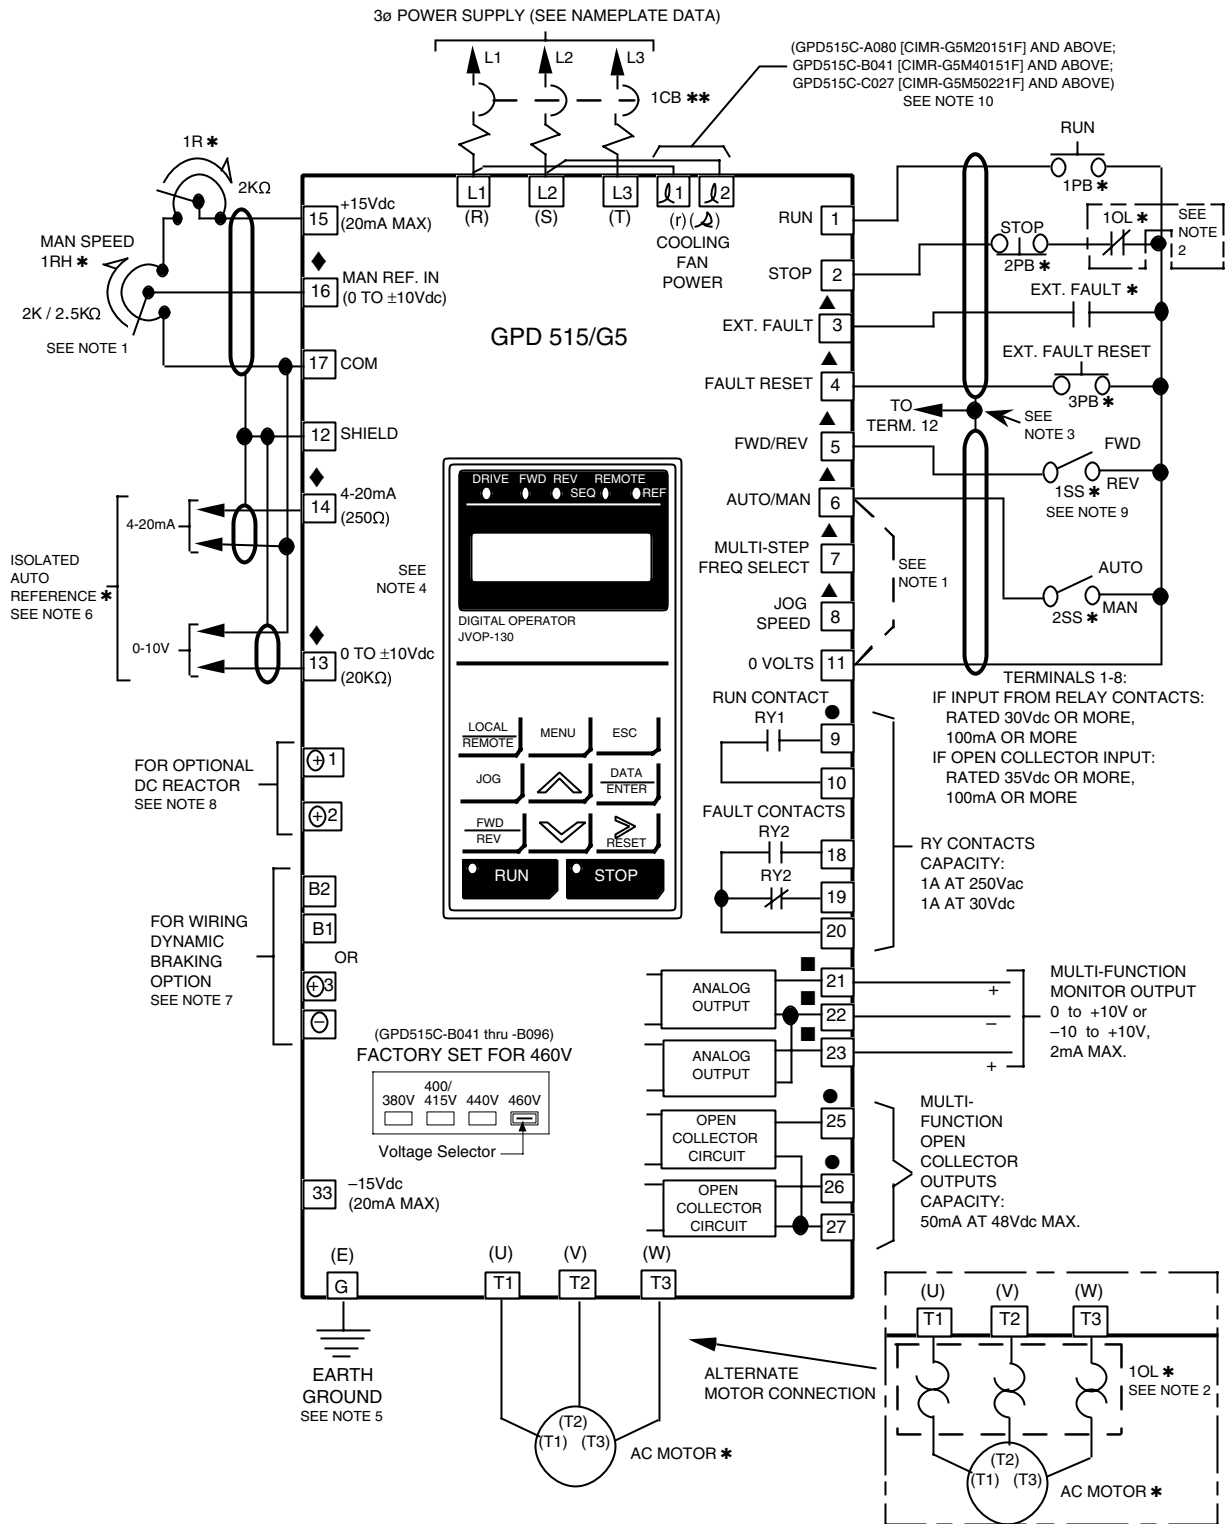

Figure 1-4. 230, 460 or 600V Interconnections - 3-Wire Control
- Interconnections for external three-wire control in combination with the Digital Operator are shown in Figure 1-4.
1.4.6 Interconnection – 3-Wire Control Operation Figure 1-4.
Notes referred to in figure 1-4.